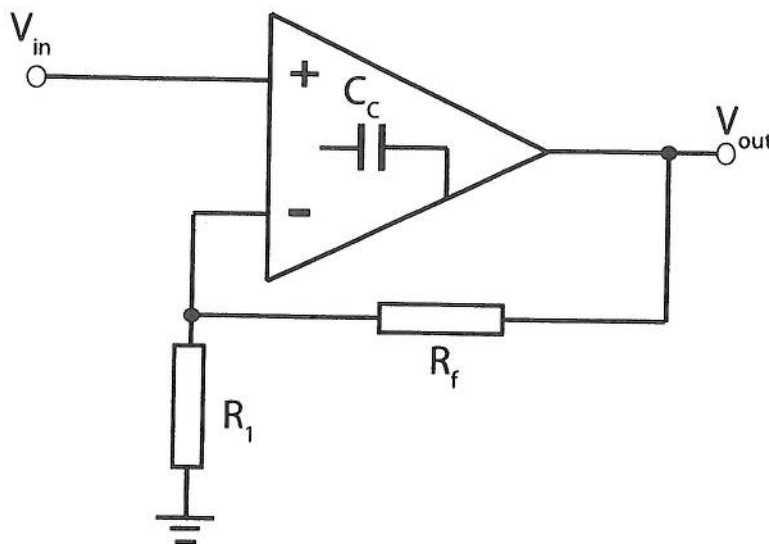

Figure 2.
- (b). Figure 2 below shows a 2-stage non-inverting amplifier, whereby R_f and R_1 are the gain resistors and C_c is the compensation capacitor used internally for frequency compensation, which is connected from the output of the first stage to the output of the op-amp.
- (ii). Assuming now that the circuit in Figure 2 is a current feedback op-amp with a pole, f_{CL} , at 10 KHz is given as: